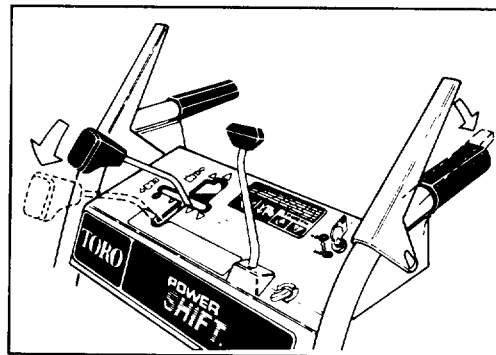

Figure 14
2. To move wheels to front or rear position, move shift control fully forward to Power shift position and hold (Fig. 14).
3. Fully engage traction drive lever to move wheels into Power Shift position (Figs. 14 & 15).